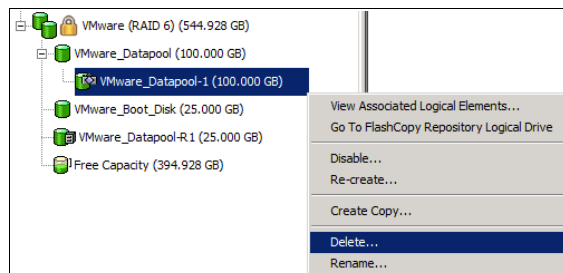

Figure 2-38 Deleting the FlashCopy logical drive
2. Click **Logical Drive** → **Delete** (or right-click and select **Delete**, as shown in Figure 2-38).